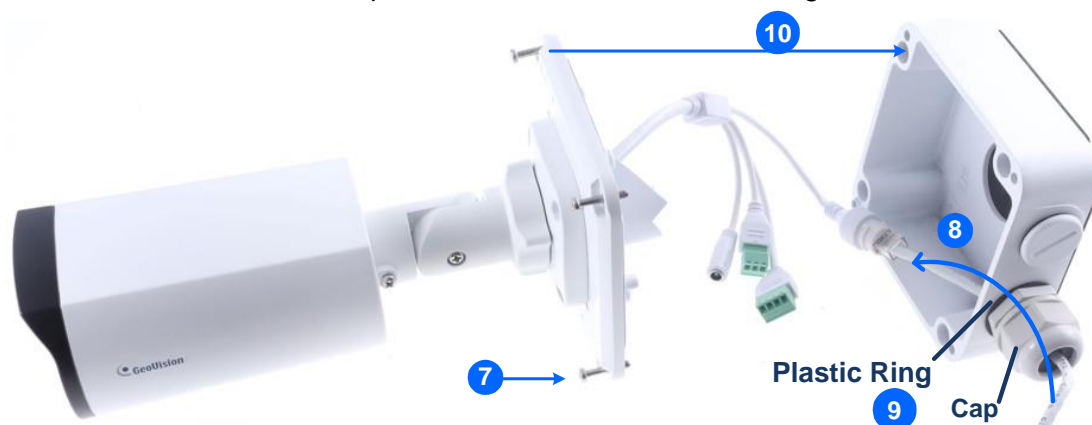

Figure 1-61
- Reattach the box cover to the power box, as shown in No. 7, *Figure 1-61*.
- Thread the Ethernet cable through the PG21 conduit connector and the power box as shown in No 8, *Figure 1-61*. Then connect the cable to the camera. To waterproof the cable, see *1.8 Waterproofing the Cable*.
- Rotate the plastic ring to secure the conduit connector to the power box. Secure in the cap, as shown in No 9, *Figure 1-61*
- Secure the box cover to the power box, as shown in No 10, *Figure 1-61*.
7. Thread the Ethernet cable through the center hole (proceed to Step 9) or through the PG21 conduit connector and the power box as shown in No 8, *Figure 1-61* (proceed to Step 8).
8. Rotate the plastic ring to secure the conduit connector to the power box. Secure in the cap, as shown in No 9, *Figure 1-61*.